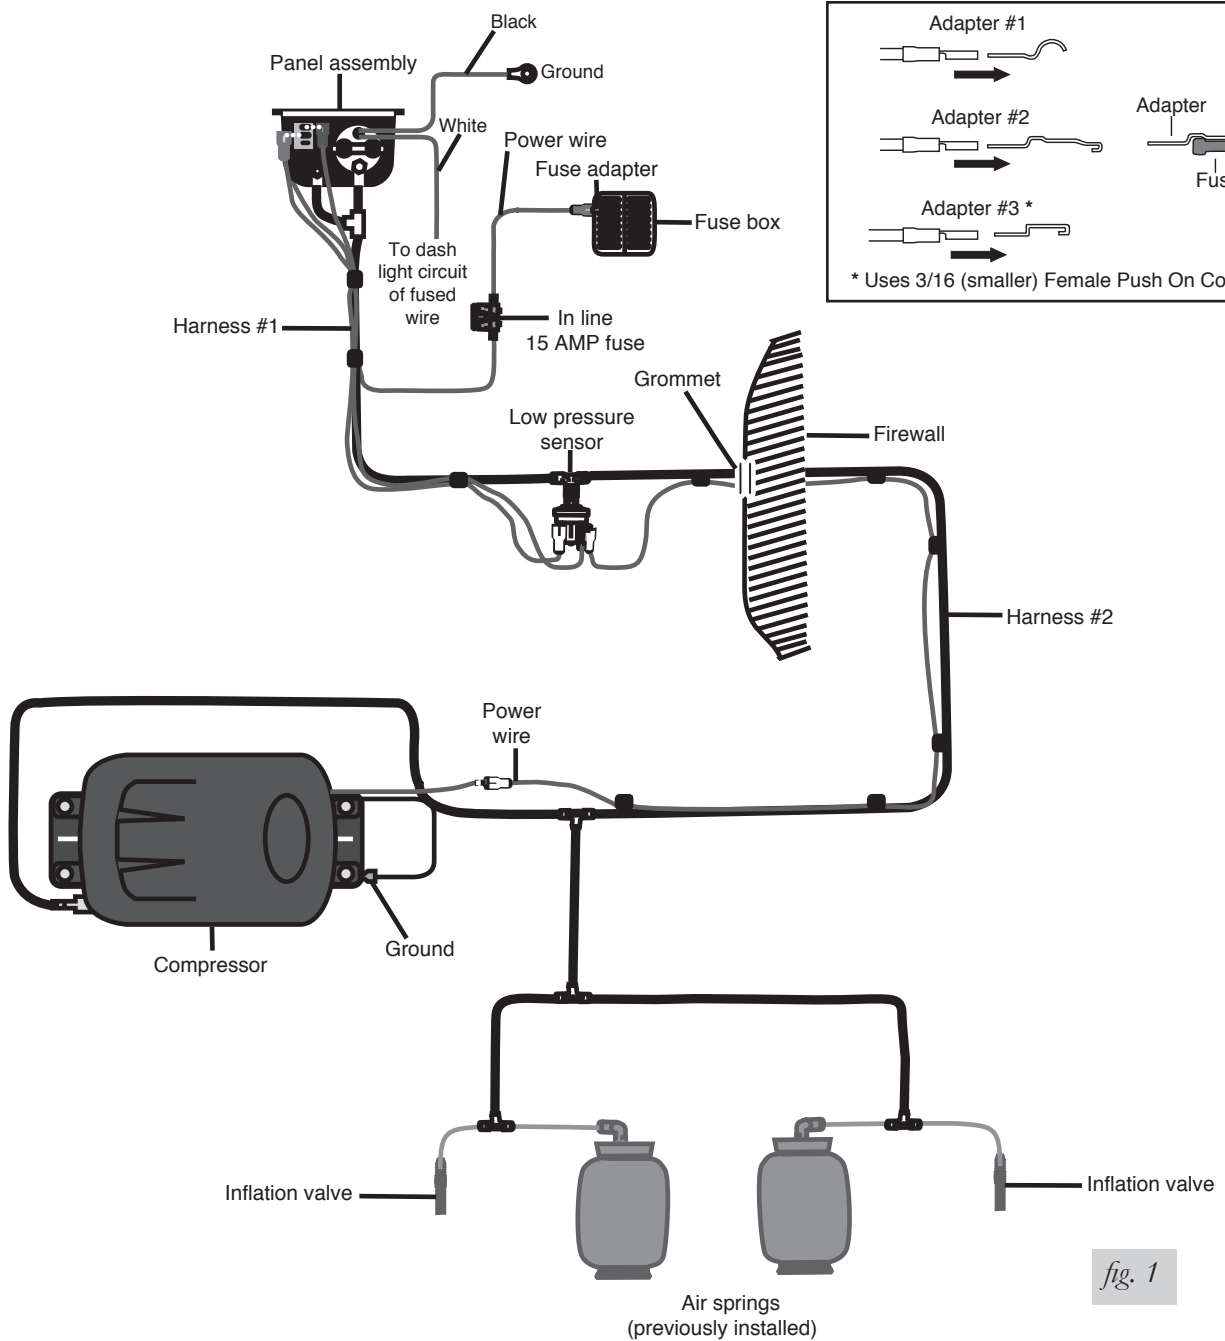

fig. 1
7. The next connection is between each air spring and the air line “T” fitting located just ahead of the check valves in harness #2, near the compressor (figs. 1 and 7).
- b. Install the provided “T” fittings (fig. 1) by pushing the air line into each leg of the “T” until you feel a definite “click”. Each line should go in 9/16”.
- c. Connection to the fuse terminal will depend on what type of fuse your vehicle uses. If your vehicle uses the barrel type fuse, use adapter #1. If you have the standard spade type fuses, use adapter #2. Many late model vehicles use a smaller spade type fuse which requires adapter #3 (see inset with fig. 1). If adapter #1 or #2 are used, it will be necessary to cut off the 1/4” female connector attached to the power wire and crimp the smaller 3/16” female connector supplied with this kit.
- b. Ground the black wire to an adequate ground. Use the additional wire and connectors supplied if longer leads are needed (fig. 1).